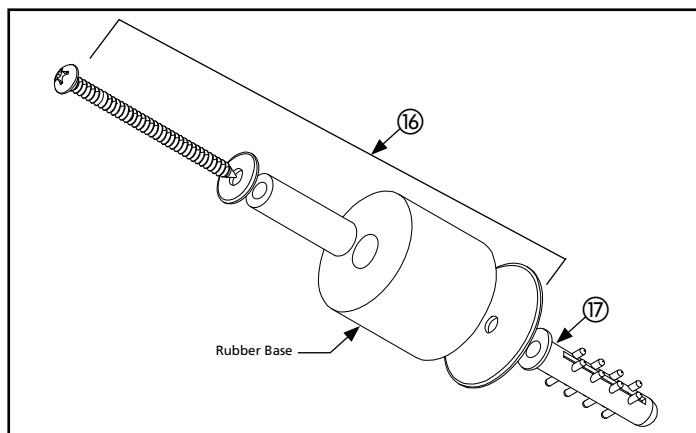

Figure 19. Floor Guide Assembly
4. Assemble the floor guide ⑯ (if not pre-assembled) as shown in Figure 19. If installing into concrete, use floor anchor ⑰ in predrilled hole.